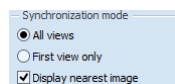

Figure 156 – Define layout tool, Synchronization mode part
Two synchronization modes are available via the **Synchronization mode part in the Define layout tool** (see Figure 156):
1. Check **Display nearest image** (see Figure 156) to show the image at the nearest position in the secondary views.